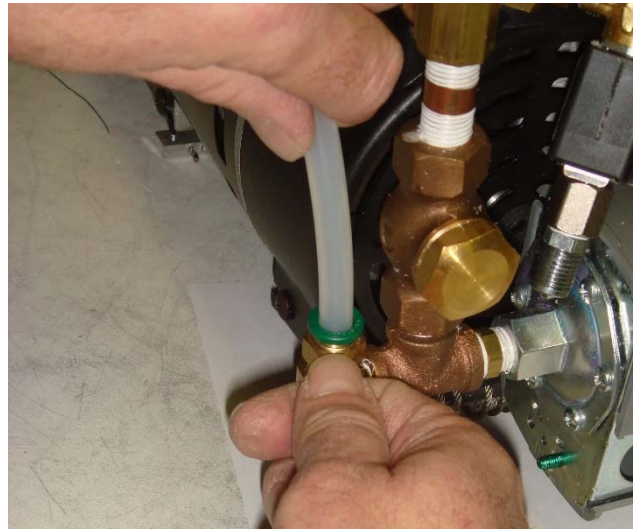

Fig. 1
4. Locate nylon, white semi-opaque tubing connected to the compressor. Disconnect the tubing from the compressor by pressing down on the green ring with one thumb, push the tubing down into connector, and then lift tubing out of the connector. (Fig. 1)